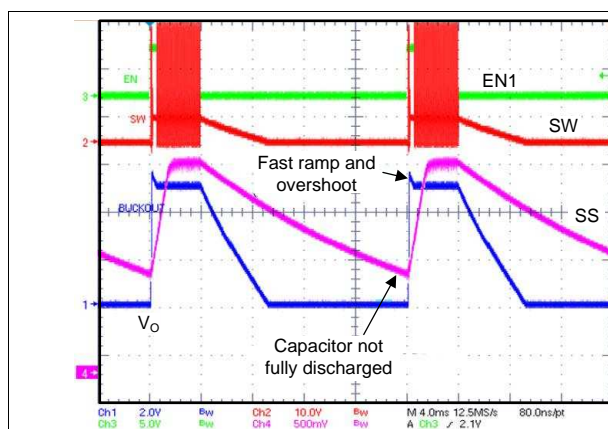

图 15. Partially Discharged SS Capacitor Causing Overshoot on V_O
- VIN-overshoot (up to 1 V was observed, see 图 15)